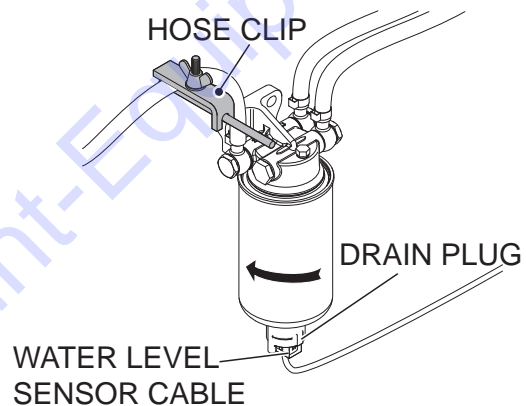

Figure 49. Fuel Prefilter
1. Block the fuel feed line with a hose clip (Figure 49) between the fuel tank and fuel prefilter.
3. Disconnect the water level sensor cable (Figure 49) from the drain plug.